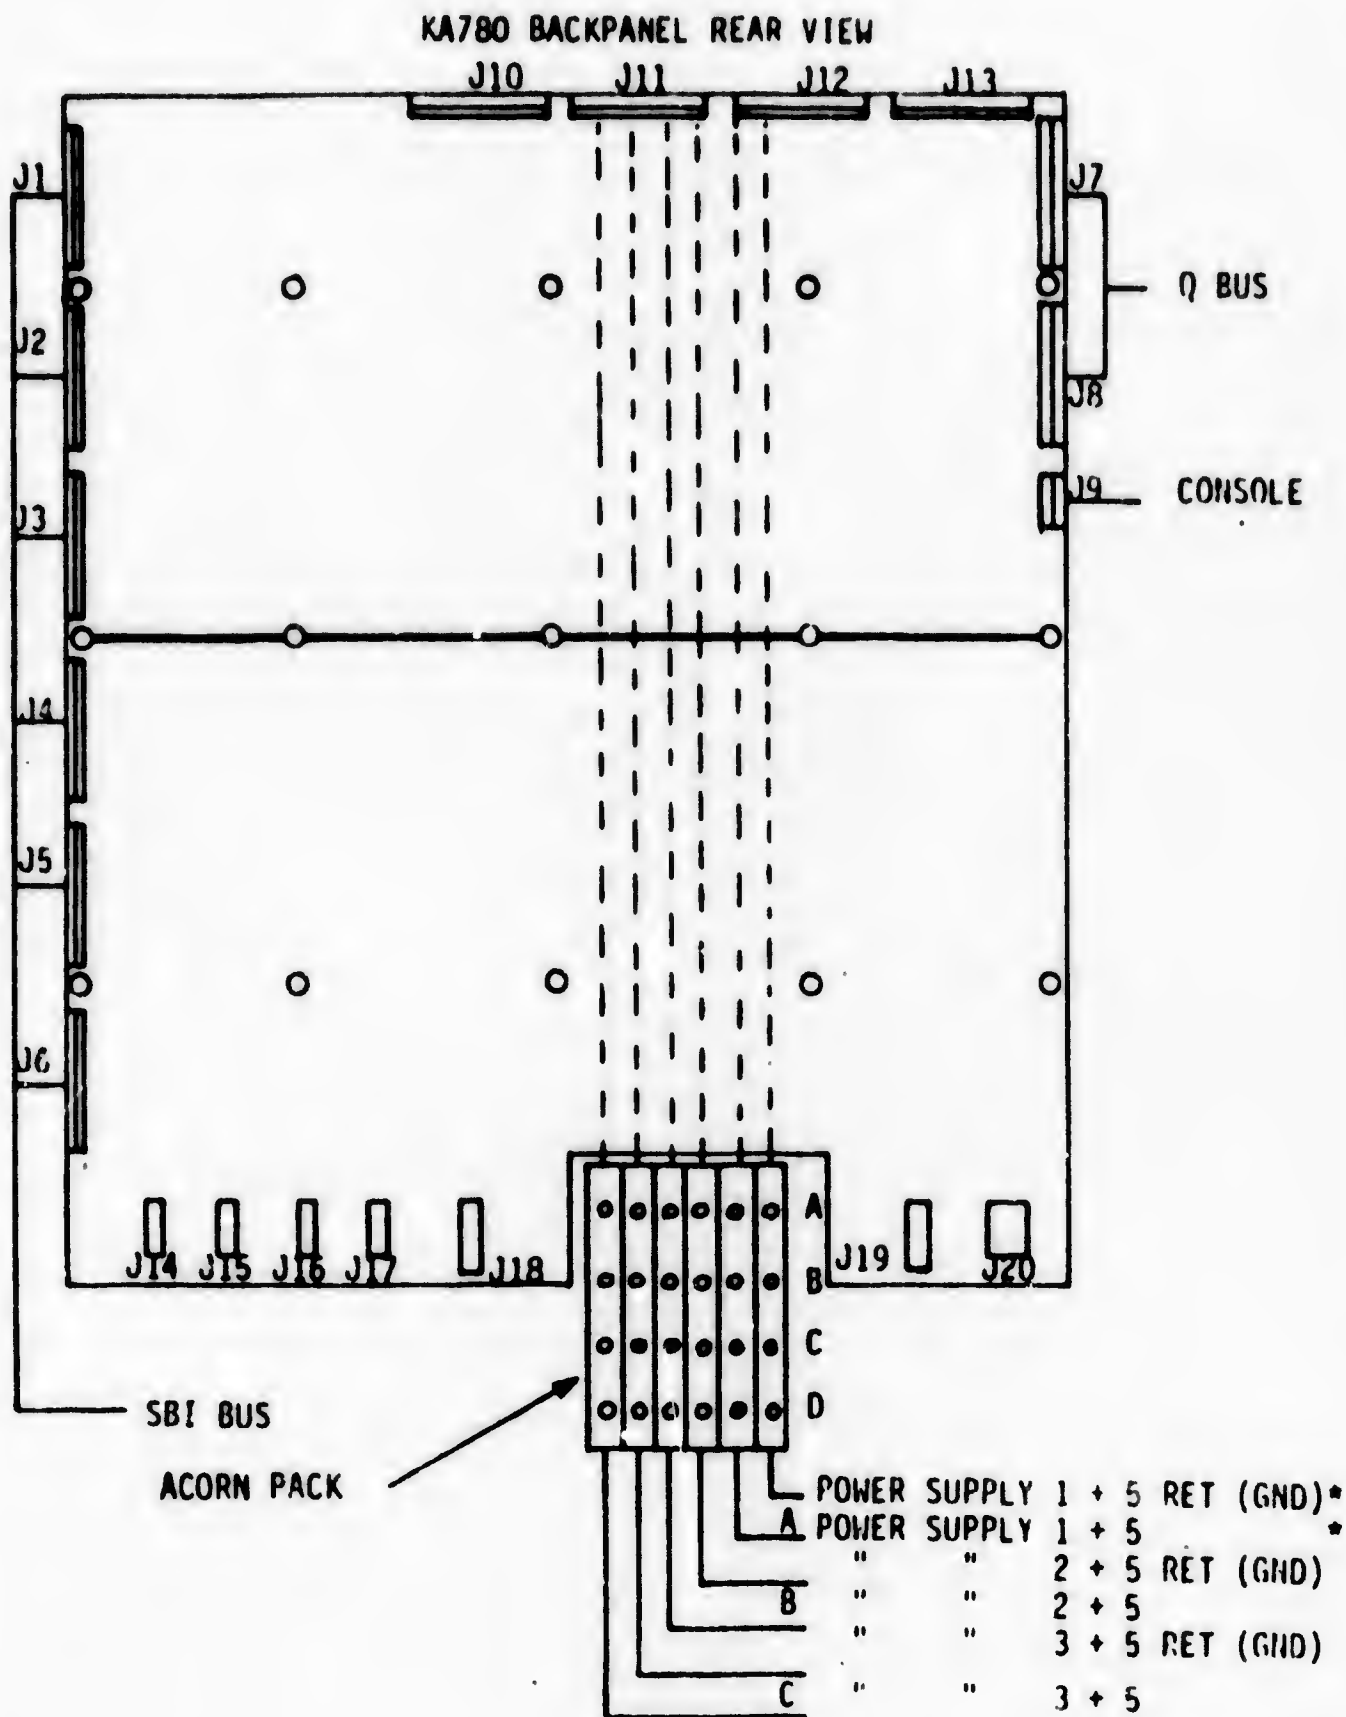

FIGURE 3
6.1.6 Connect two M9045 paddle cards together using four (4) 70-16886-14 flat grey cables - that have the foam padding between them. Reference figure 3.